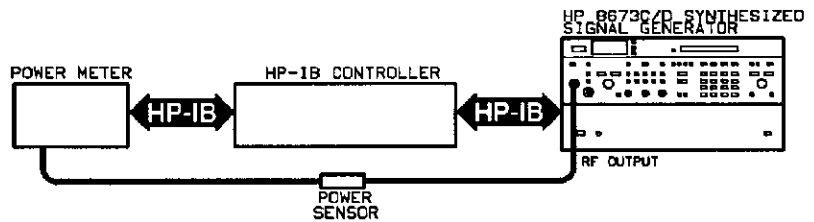

Figure 8-40. Final Output Power Check Test Setup
17. Connect equipment as shown in figure 8-40. With the HP 8673C/D Adjustment Cassette still installed (see step 12) run the following power plots, as appropriate: